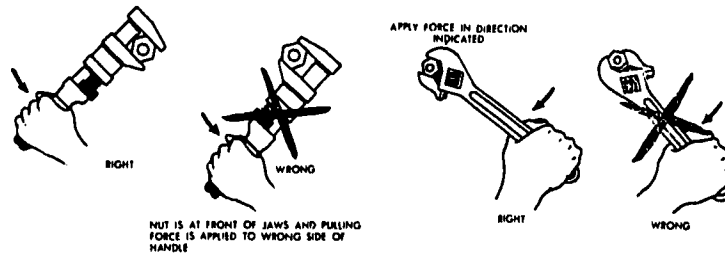

Fig 2-36. Applying force.
- Use a flat jawed type wrench on nuts and bolts. An adjustable wrench or monkey wrench is made for such items as flat surfaced nuts. Apply force in a correct direction as illustrated in figure 2-36.